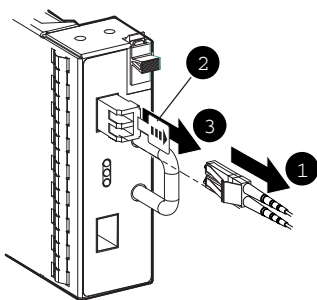

Figure 51 Removing an I/O transceiver
1. Disconnect the FC cable from the transceiver (1, Figure 51) on the I/O module by pressing on the cable release while pulling on the cable connector. If backend FC switches are not being used, a cable is connected to both the upper port and lower port on the I/O module. Remove both cables and label each to indicate which port (upper or lower) it must be reconnected to.
2. Remove the transceiver by applying slight pressure on the transceiver tab in the direction of the tab (2, Figure 51) to release the catch mechanism, and then pulling gently on the transceiver to remove it from the I/O module (3, Figure 51).